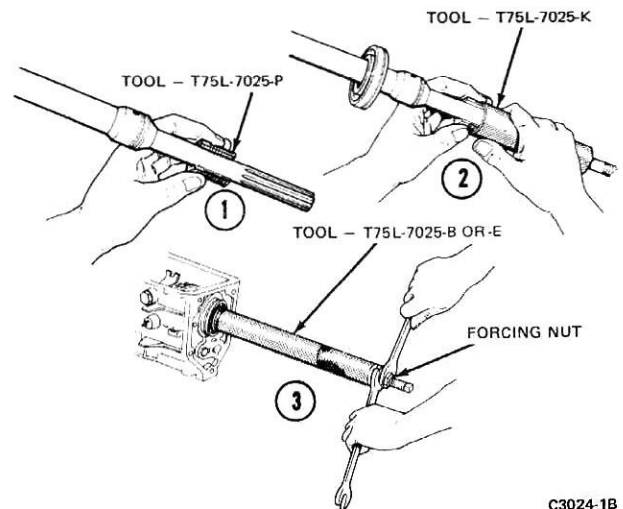

FIG. 13 Installing Input or Output Shaft Bearing
19. Install the large snap ring on the rear bearing. Place the bearing on the output shaft with the snap ring end toward the rear of the shaft. Press the bearing into place with the tool shown in Fig. 13. Secure the bearing to the shaft with a snap ring.
2. Press the input shaft bearing onto the input shaft with the tools shown in Fig. 13, and install the snap ring on the shaft.